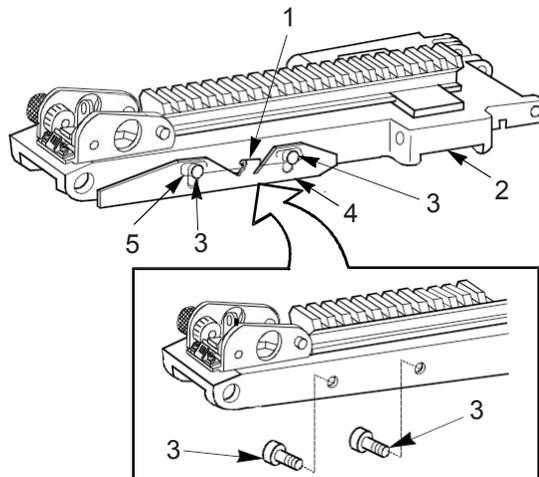

Figure 14. Cover Latches, Retaining Clip Breakout View.
21. Pry retaining spring (Figure 14, Item 5) over two retaining pins (Figure 14, Item 3). Remove two retaining pins (Figure 14, Item 3), retaining spring (Figure 14, Item 5) and cocking channel cover (Figure 14, Item 4) from cover assembly (Figure 14, Item 2) and separate retaining spring (Figure 14, Item 5) from cocking channel cover (Figure 14, Item 4).